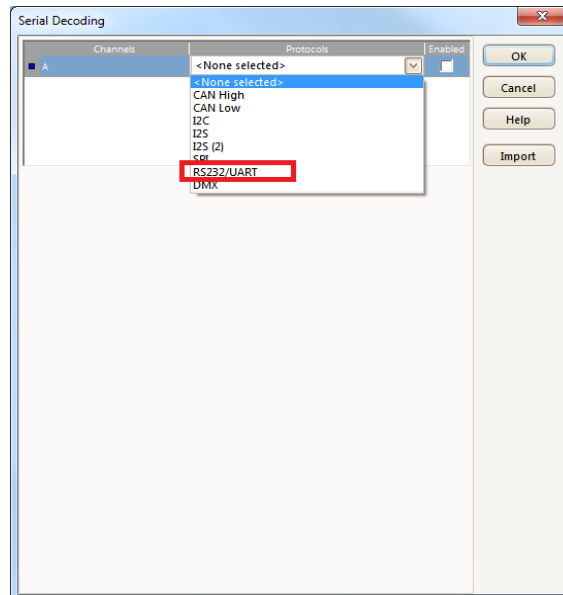

Fig 3
- The Protocol decoder(dll) should then be available in the Protocol List in Fig 3
- The Protocol decoder(xml) should then be available in the Protocol List in Fig 3
- **Protocol** : Gives a name to the protocol which is displayed in the Combo in Fig3
- o **DisplayName** - name that should be shown in the Serial Decoding Setup dialog in *Fig 3*
- **Name** : Gives a name to the protocol which is displayed in the Combo in Fig3
- o **DisplayName** : name that should be shown in the Serial Decoding Setup dialog in Fig 3